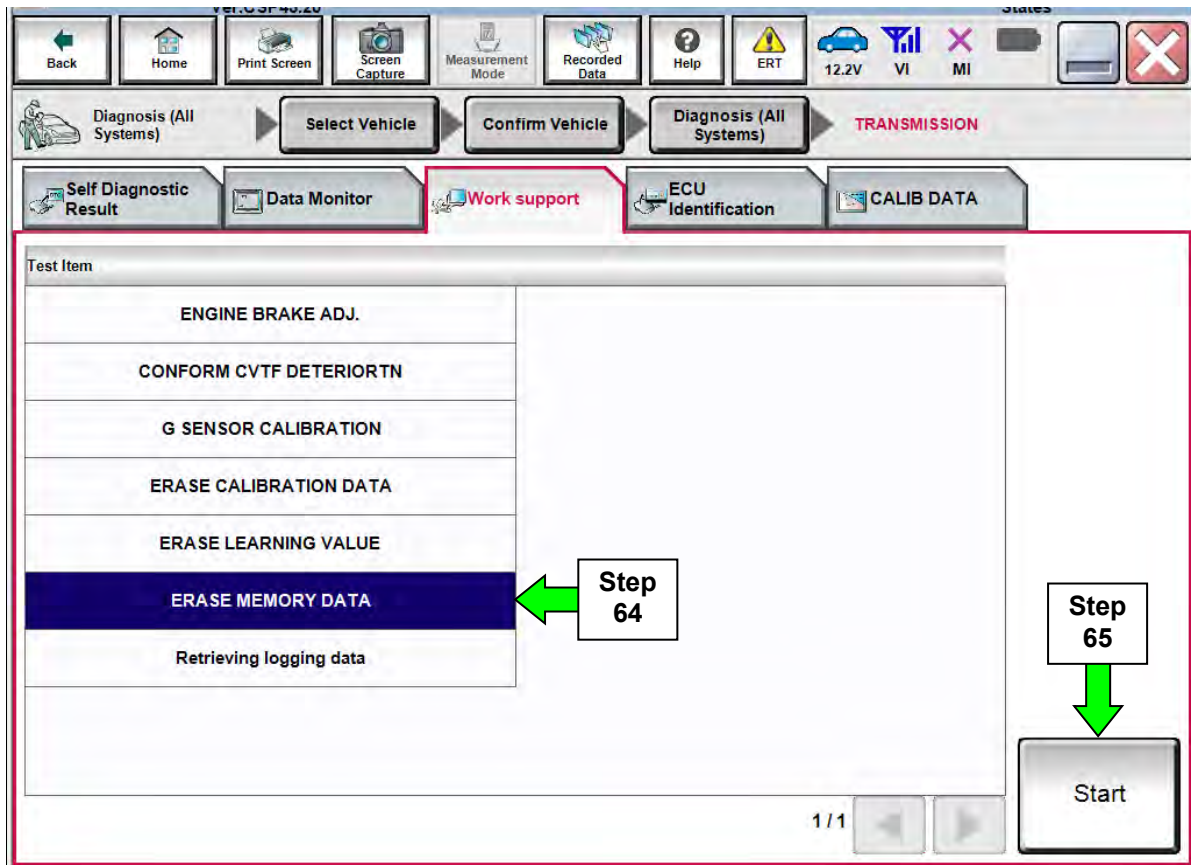

Figure 36
63. Navigate C-III plus to the screen shown in Figure 36.